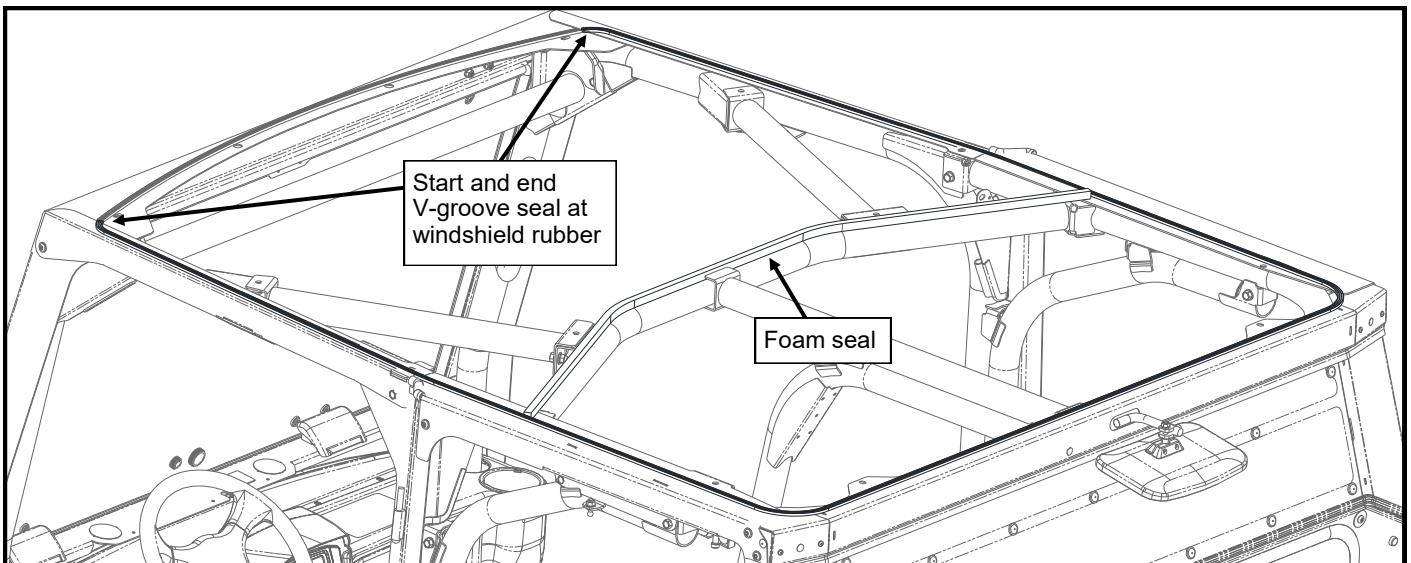

Figure 14.3: Canopy Weather Seal
- 14.3 Apply the 1/2" V-groove weather seal along the top perimeter of the cab (see Figure 14.3). Start at the seal on the windshield and route the seal to the rear along the edge of the side headers. Continue along the rear header and forward along the front headers up to the seal on the opposite side of the windshield.
- 14.4 Apply 1/2" foam weather seal to the upper center beam of the ROPS, along the center of the beam and up to the v-groove seal on each side (see Figure 14.3).